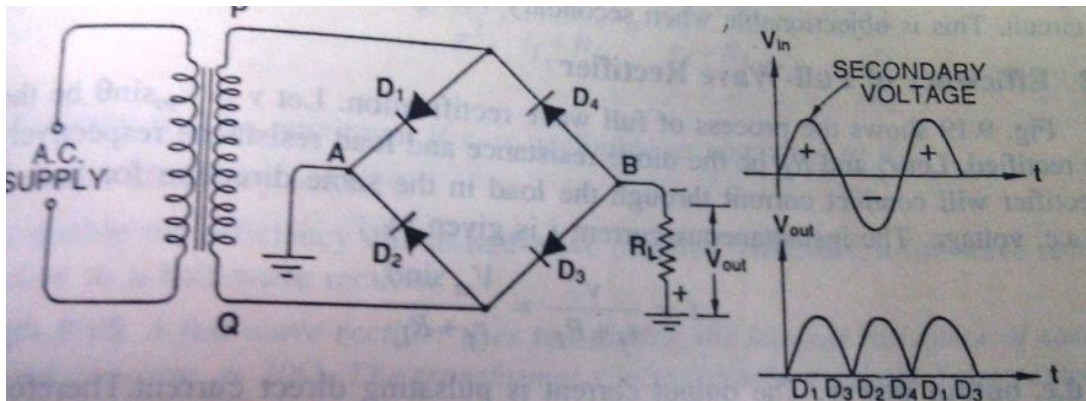

Figure 1.2.8
The need for a centre tapped power transformer is eliminated in the bridge rectifier. It contains four diodes  $D_1$ ,  $D_2$ ,  $D_3$  and  $D_4$  connected to form bridge as shown in Figure 1.2.8. The ac supply to be rectified is applied to the diagonally opposite ends of the bridge through the transformer. Between other two ends of the bridge, the load resistance  $R_L$  is connected.
**Peak Inverse Voltage:** Referring to Figure 1.2.8., when end P is positive, diode  $D_1$  conducts whereas diode  $D_2$  does not conduct. By studying the circuit  $PD_1D_2Q$  it is easy to see that whole of the secondary voltage is applied in the reverse direction across  $D_2$ . Hence, PIV of each diode is equal to the maximum secondary voltage.